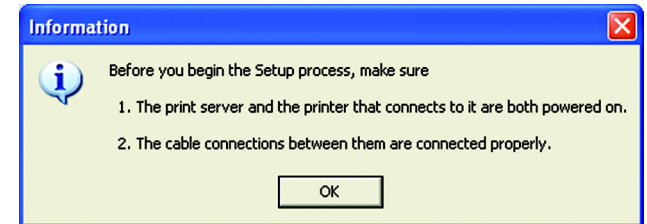

Figure 5-6: Information
2. The *Information* screen will appear; see Figure 5-6. Read the on-screen information, and then click **OK**.